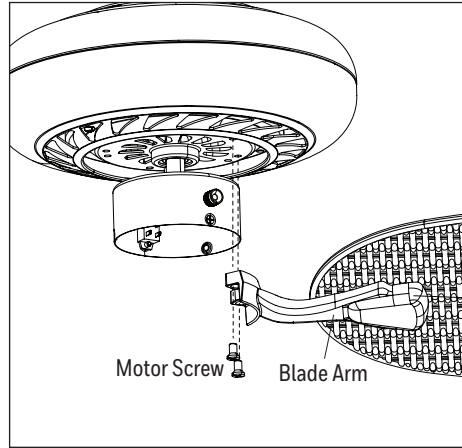

Figure 5.5
5. Install the blade arm to the underside of the motor assembly using the ten previously removed motor screws (Figure 5.5).